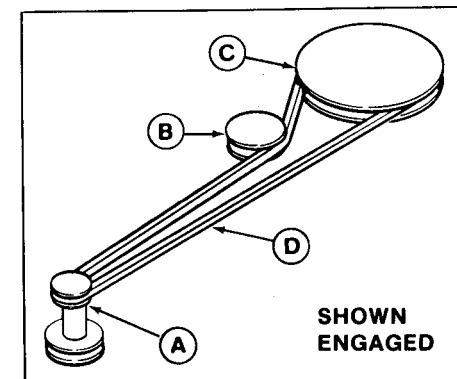

**Figure 23. Gear Shift Lever**
3. Remove the nut, washer and capscrew (A, figure 23) from the gear shift lever (B). Remember position of hardware for reinstallation.